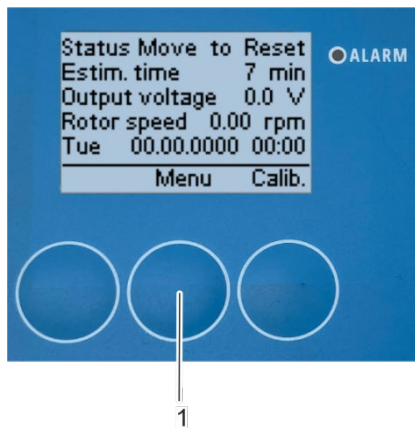
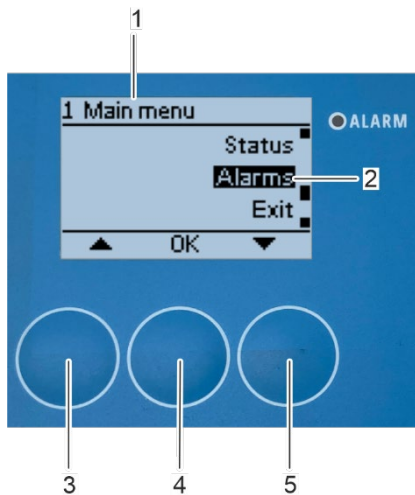

Fig. 182: Open main menu
Fig. 183: Open submenu "Alarms"
1. Press *[Menu]* (Fig. 182/1) to open the "1 Main menu" menu (Fig. 183/1).
⇒ The "1 Main menu" menu appears on the display (Fig. 183/1).
2. Select the "Alarms" submenu (Fig. 183/2) with the arrow keys *[up]* (Fig. 183/3) and *[down]* (Fig. 183/5).
3. Confirm the selection with *[OK]* (Fig. 183/4).